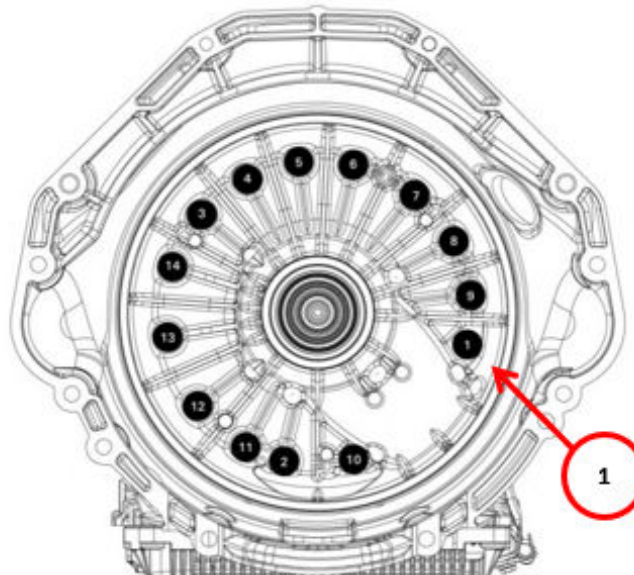

Fig. 39
58. Install the **NEW** oil pump cover retaining bolts and tighten the bolts as follows: Install the transmission oil pump assembly and secure using 14 **NEW** pump housing bolts Fig. 39.